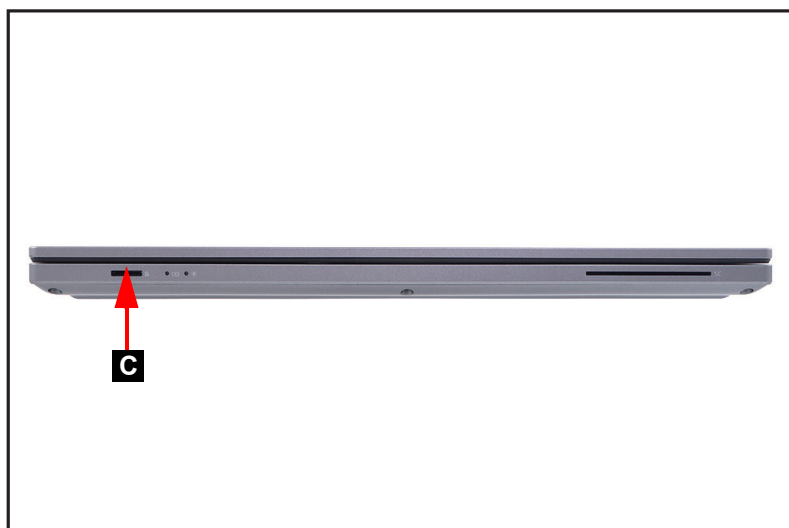

Figure 1-2. Smart Card Slot
4. Remove the smart card from the smart card slot (C) (Figure 1-2).